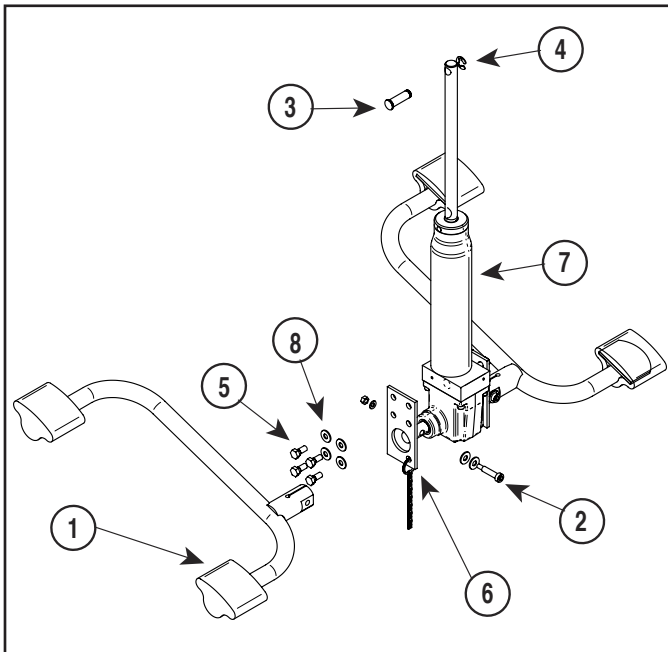

Figure 4-4 Lift Assembly / Disassembly
- (1) Place pump (7 Figure 4-4) into position, install pump mount brackets (6) on pump. Insure brackets are properly seated on the mounting surfaces of the pump. Orient on pump as shown.
- (2) Lift pump into position and install using washers (8) and bolts (5). Torque bolts to 22 ft-lbs evenly.
- (3) Install pump pedals onto pump shafts using shoulder bolt, washers and nut (2). Torque nuts to 92 in-lbs.